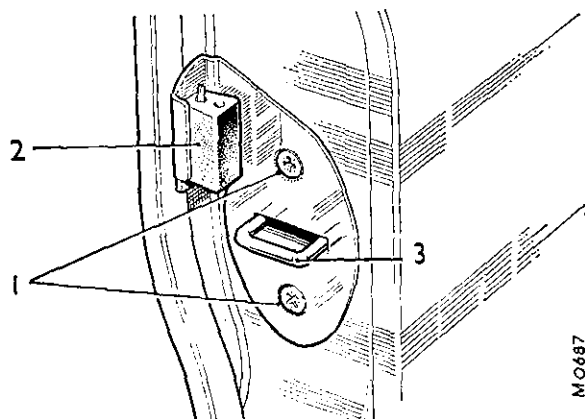

Fig. Rb.4
Before attempting to close the door ensure that the latch disc is in the open position; if not, 'fire' the latch (using the push-button) and pull the latch disc back to the open position using a screwdriver. Do not slam the door while making adjustments as the mechanism may be strained. The striker screws (1) (see Fig. Rb.4) should be tightened sufficiently to allow the door to be closed to the fully latched position, but will allow the striker
- (7) Pull the door outwards or press it inwards (without using the press-button) until the door is in alignment with the body.
- (8) Use the push-button to open the door and pencil a line around the striker cover-plate to establish its new horizontal position.
- (9) Remove the striker plate over-travel rubber stop (2) as this tends to twist the striker during adjustment (see Fig. Rb.4).
- (10) Set the striker loop (3) at right angles to the door hinge plane before finally tightening the screws (1) (see Fig. Rb.4). The door can then be checked for 'drop' or 'lift' and if necessary the striker screws slackened again while the striker is moved vertically as required.